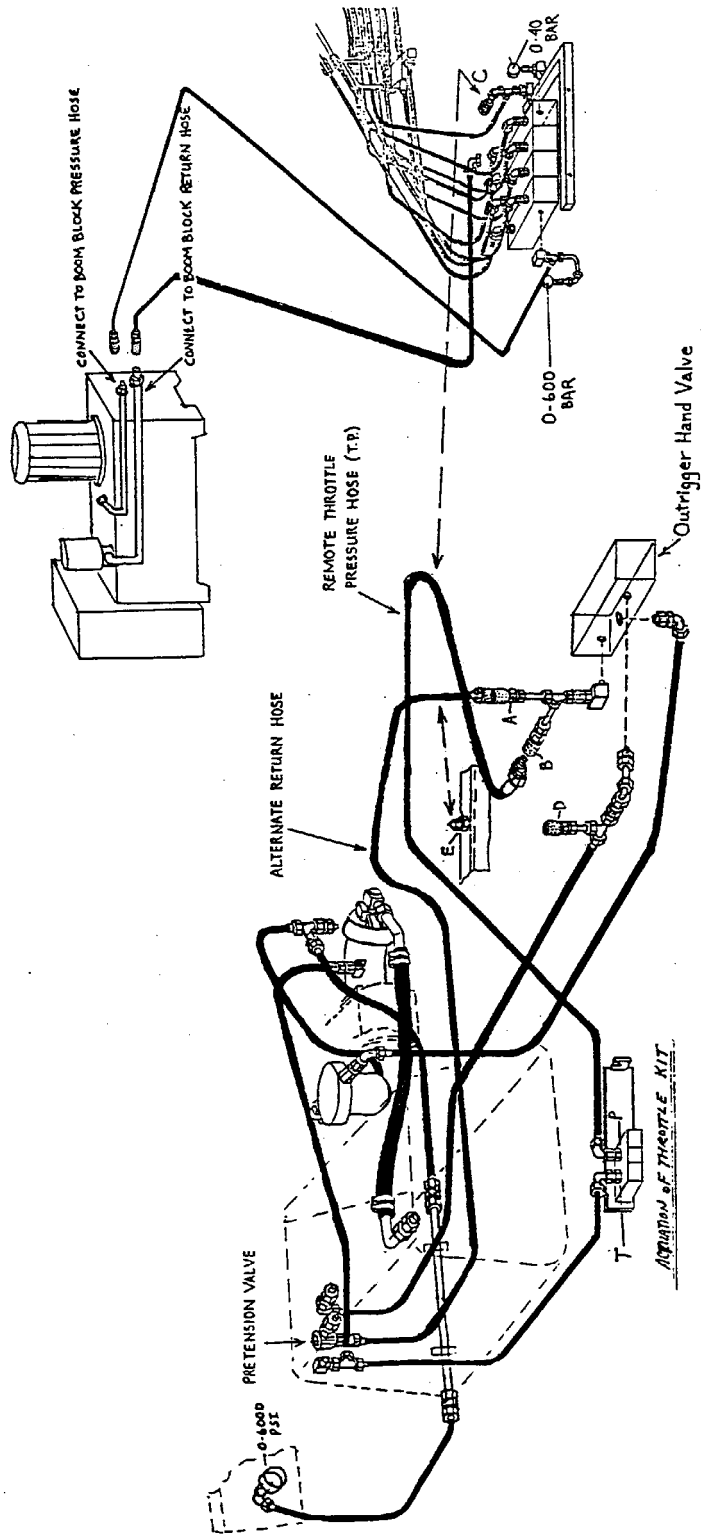

FIGURE 2
- Step 9. Connect alternate return hose to quick disconnect fitting (Fig. 2 Position "A")
Step 10. Now compare to Fig. 2. You should have the boom pressure and return lines connected to the power pack, the remote throttle pressure line connected to fitting "B", and the alternate return line connected to fitting "A". Please note: You should have 3 unused fittings in the system when you're done plumbing: Position "C", Position "D", and Position "E". These fittings should not leak because of the check valve function of the quick disconnect feature. Please make sure that all quick disconnect fittings are fully inserted, and the outside ring of the fittings has snapped completely back to the original position.